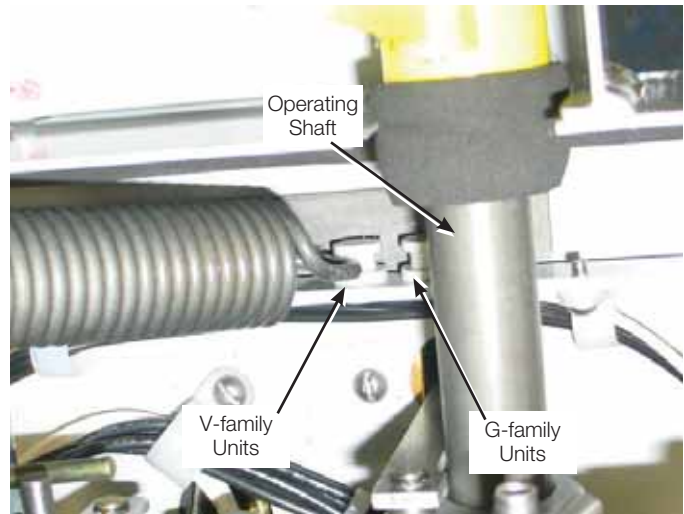

Figure 43.
- s. Ensure trip spring is hooked on the correct pin in the operating mechanism housing. Refer to Figure 43.